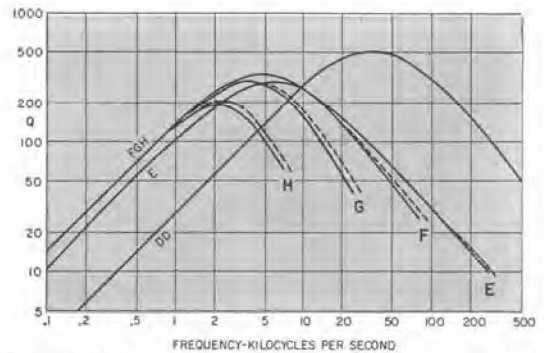

Figure 3. Variation of Q for the maximum inductance of each inductor. Dashed curves correspond to use with chassis floating.
**Storage Factor, Q:** See Figure 3.